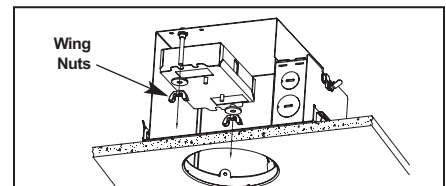

Figure 12
Step 3. Remove the wing nuts holding the driver to the housing. Bring driver (with leads connected) through ceiling opening. (Fig. 12)